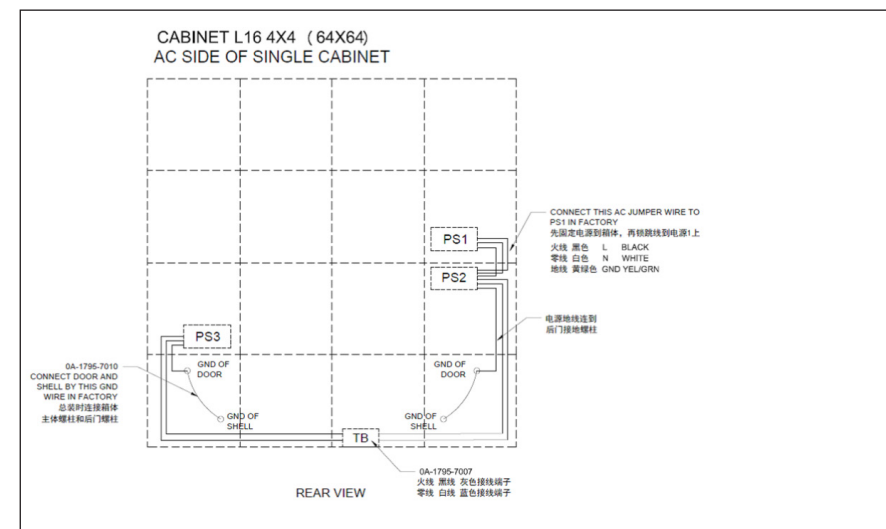

Figure 17: Internal AC Power Routing Schematic (Completed at Factory)
- Doors are opened via 2 latches per door, and the latches are accessed with a proprietary key. See below for more information on the key, and refer to Figure 17 for Internal AC Power Routing Schematic.